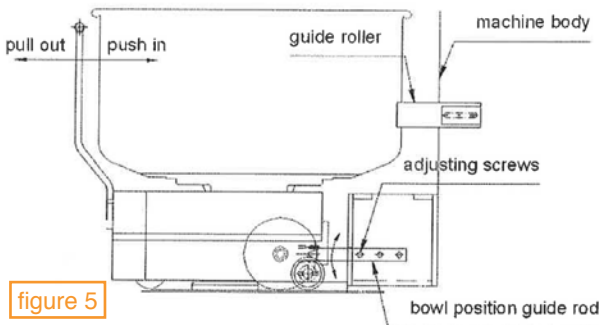

figure 5
8. In this position, we can test degree of tightness of bowl position guide rod. Pull the trolley out of the machine. Repeat as above until the trolley can be pushed in and pulled out easily. And then tighten the adjusting screws of the bowl position guide rod as shown in Figure 5. At last, try to pull out the trolley and push it in again to make sure the trolley can go in and out smoothly.